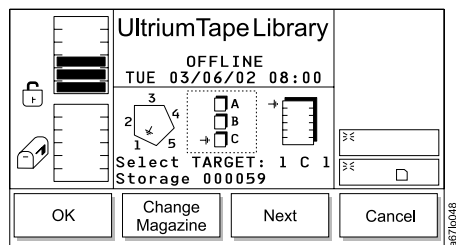

Figure 147. Change Magazine Dialog
- Press the button below the **Change Column** softkey until the arrow in the left icon points to the column that you want. Press the button below the **Next** softkey. The Change Magazine Dialog displays (see Figure 147).